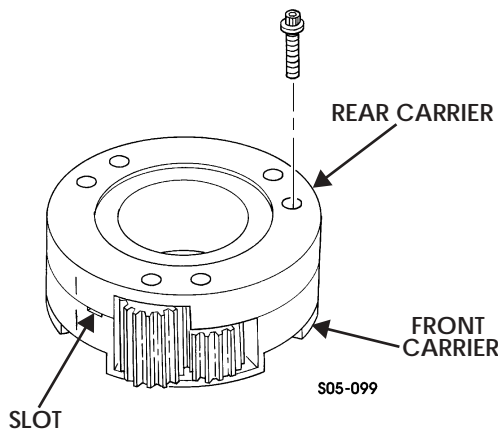

Figure 5-152: Differential
1. Remove six screws securing front and rear carriers (Figure 5-152).